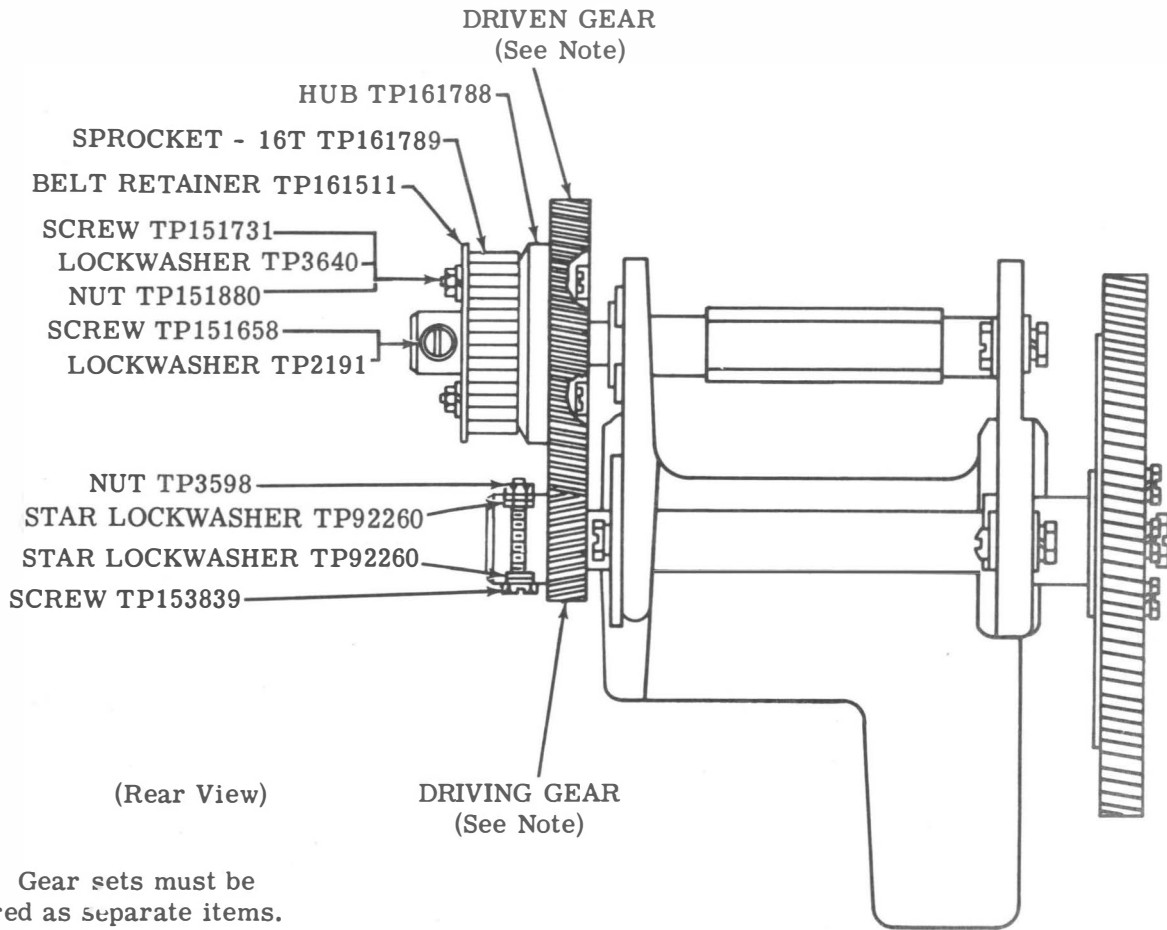

Figure 8 - Installation of Gear Set on Gear Bracket Assembly (Auxiliary Reperforator Base)
12.03 On units not equipped with variable speed drive, install the gears for the desired speed of operation on the shafts of the gear bracket assembly as shown in Figure 8. Mounting hardware is in a bag tied to the base. The set of gears must be ordered as a separate item.